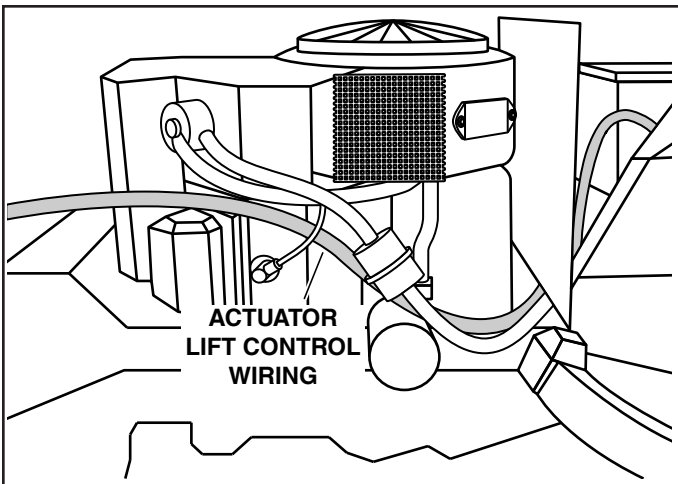

Figure 20.
1. See figure 20. Continue routing the wiring of the actuator lift control towards the front of the tractor. Make sure to route wiring behind existing engine wiring as shown.